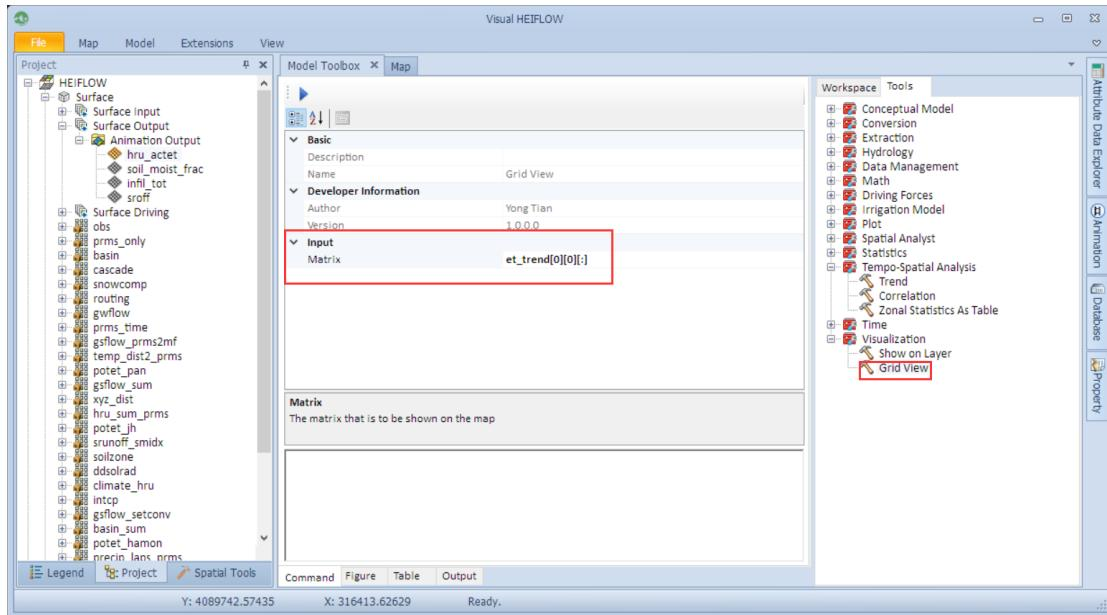

Figure 8-19. Input settings of the Grid View tool.
- 4) Double click Visualization -> Grid View, and set inputs according to Figure 8-19.